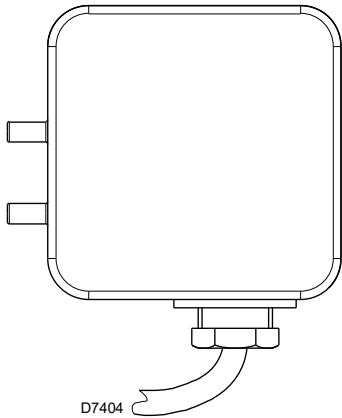

Fig. 23
- Adjust the air pressure switch (Fig. 23) to the start of the scale.
Adjust the air pressure switch after performing all other burner adjustments with the air pressure switch (Fig. 23) set to the start of the scale.